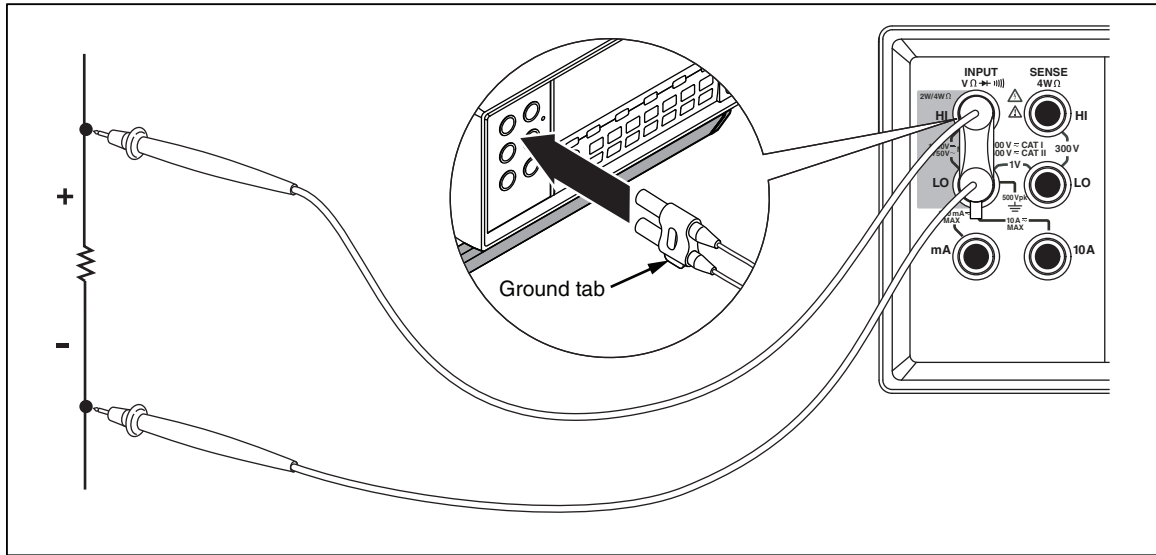

Figure 3-7. Input Connections for 4-Wire Ohms Using 2x4 Wire Leads
1. Connect the test leads to the Meter's input connectors as show in Figure 3-7.